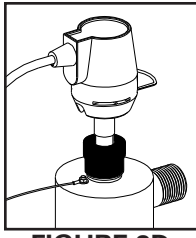

FIGURE 2D
4. Lorsque la connexion est faite entre le connecteur et la lampe, sur la lampe UV (Figure 2D).
3. To install a new lamp, first remove the lamp from its protective packaging, again being careful not to touch the lamp glass itself. Carefully insert the lamp into the reactor vessel (actually inside the quartz sleeve) (Figure 2C). Insert the lamp fully into the chamber leaving about two inches of the lamp protruding from the chamber. Next, attach the connector to the UV lamp (Figure 2B). The connector is “keyed” and will only allow correct installation in one position. Ensure the connector is fully seated onto the UV lamp (Figure 2D).
retaining nut, slide the metal ring back in to lock the connector in place (Figure 2E). As this connector is keyed to the reactor chamber, make sure the notch on the connector (Figure 2D) is located over the ground lug located on the reactor chamber.
le connecteur (Figure 2E). Le connecteur comporte un repère de positionnement par rapport à la chambre du réacteur, s'assurer que la dépression sur le connecteur (Figure 2D) soit située au-dessus de l'oreille de mise à la terre située sur la chambre du réacteur.